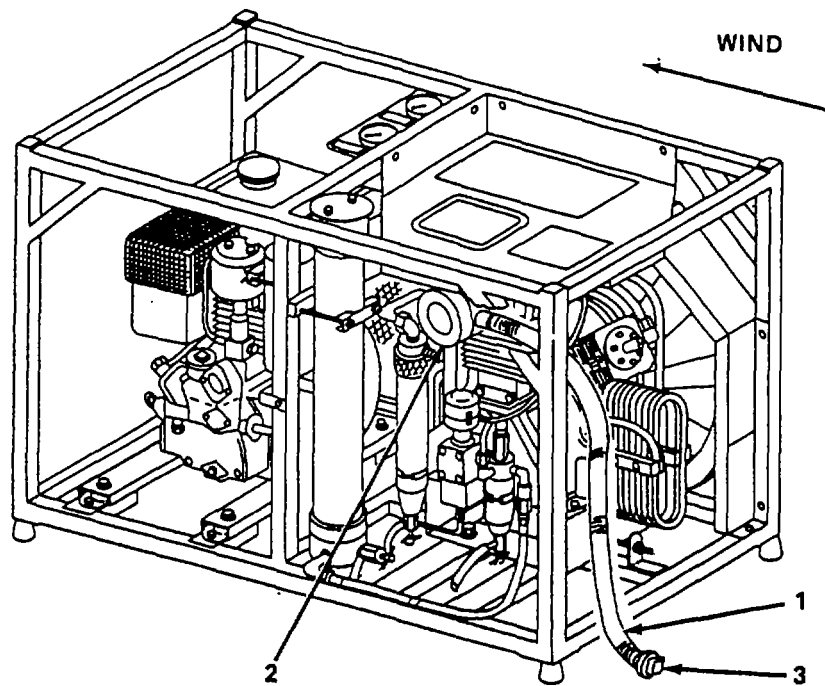

Figure 2-3. Compressor Orientation.
- d. Connect plastic hose of pre-filter (1) to the compressor air intake filter (2) and locate pre-filter (3) on ground upwind from compressor exhaust (figure 2-3).